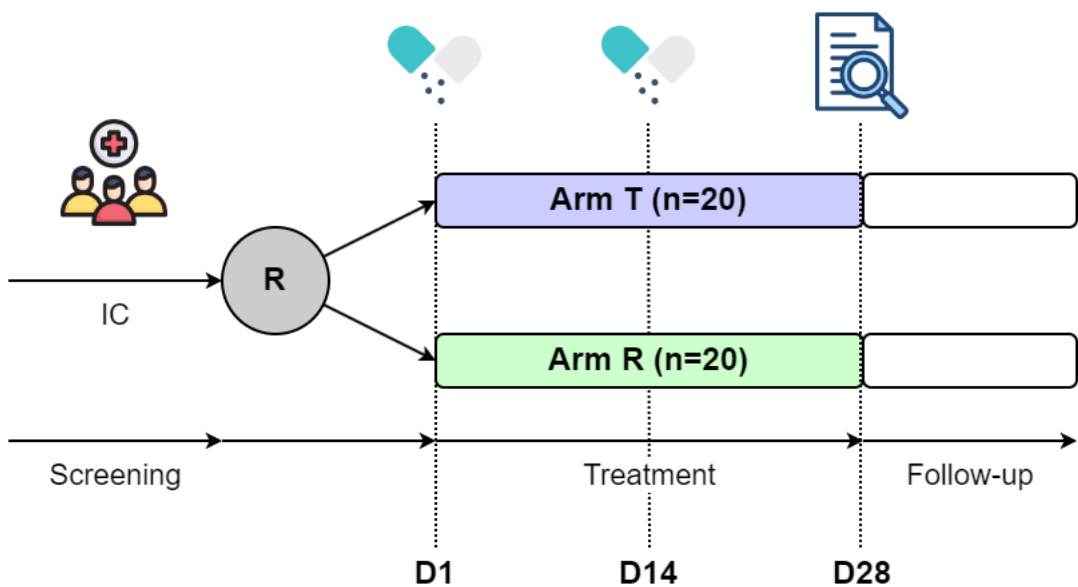

Figure 1. Base Scenario C_0
Imagine you are the Project Manager (PM) overseeing a **single-center** randomized controlled trial (RCT). The trial design is presented in Figure 1.